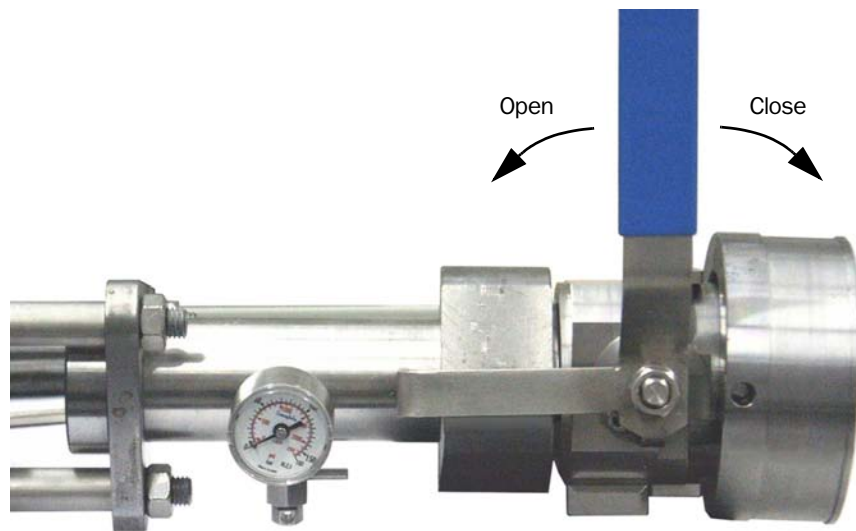

Fig. 3.9: Closing the ball valve (4)
- ▶ When the required retraction position is reached, close the ball valve (4) (see **Fig. 3.9**).